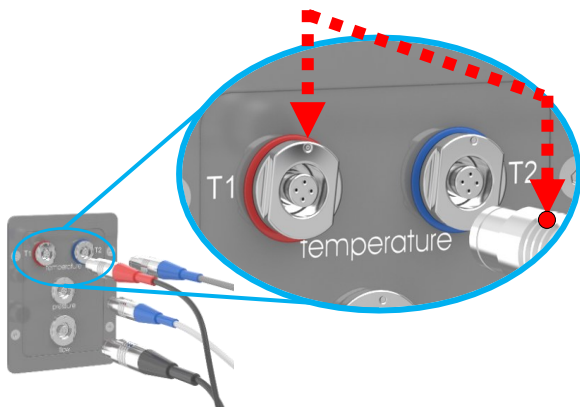

Figure 16 Connecting the sensors to the Pump Unit. Ensure proper alignment for each sensor, by orienting the sensor connection with the red dot facing upwards.
- Connect the flow sensor (Figure 16) to the silicone tubing (Figure 16, item 11), located near the arterial side of the oxygenator. Open the flow sensor by pushing the aluminum clip to release the lid. Open the lid and clamp the sensor around the silicon tubing. Push the lid to close the sensor.
- Connect the temperature sensors, flow sensor and pressure sensor (Figure 16) to the Pump Unit (Figure 3, item 9, 10, 11 & 12). Make sure to match the color coding of the temperature sensors. Make sure to connect the sensor connection with the red dot facing upwards.
- Make sure to check that no air bubbles accumulated at the flow sensor. Open the aluminum clip to release the lid (see Figure 16). Open the lid and check for air bubbles. Remove any air bubbles by manipulating the tubing. Push the lid to close the sensor.